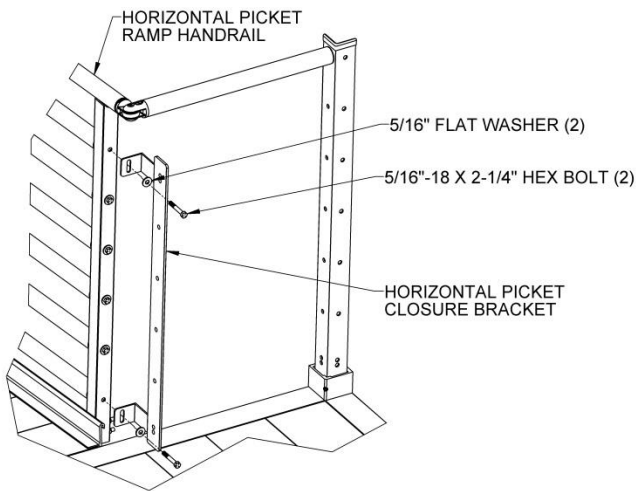

FIG. 5.18
- 5.6.7. The Horizontal Picket closure includes a special bracket which is attached to the ramp handrail post. If the ramp handrail has Horizontal or Vertical Pickets, remove the 5/16"-18 x 2-1/4" hex bolt and 5/16" flat washer attaching the upper and lower rail then reinstall through the slots in the horizontal picket closure bracket as shown in FIG 5.18. If the ramp handrail is a Two-Line or Single-Line handrail, use 5/16"-18 nylon insert locknuts to attach the bracket in the same manner (FIG 5.15). Orient the bracket toward the platform post and align the holes in the bracket with the holes in the platform post as closely as possible then tighten the fasteners lightly (enough to hold the bracket in place but still allow movement). If the ramp is centered a second Horizontal Picket closure is needed and is installed in the same manner described below.